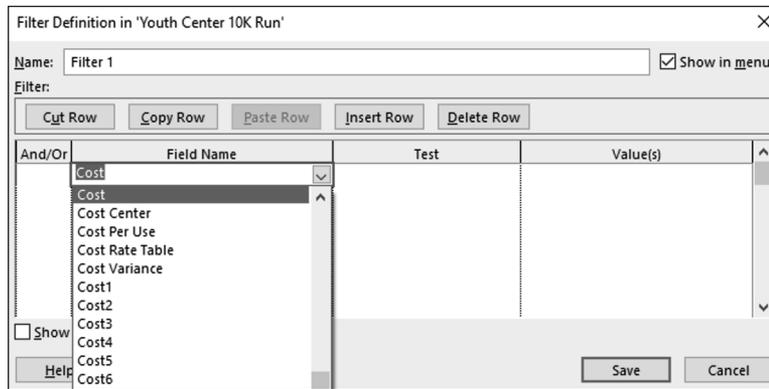

FIGURE 11-6:
5. Click the first line of the Field Name column and then click the down arrow that appears to display the list of choices, as shown in Figure 11-6.